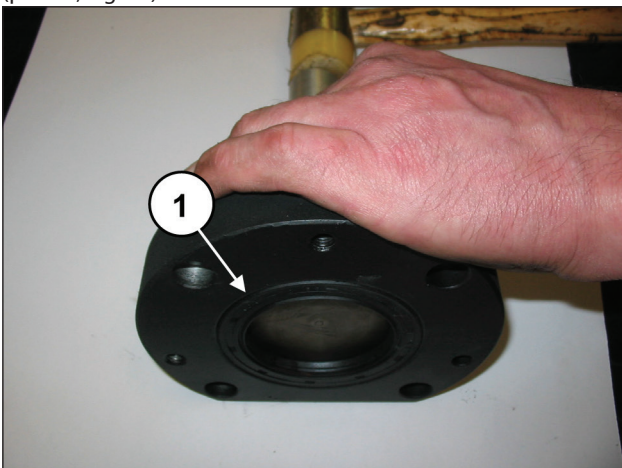
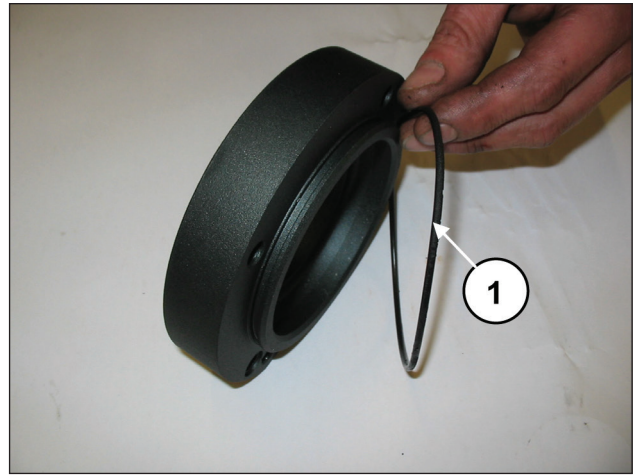
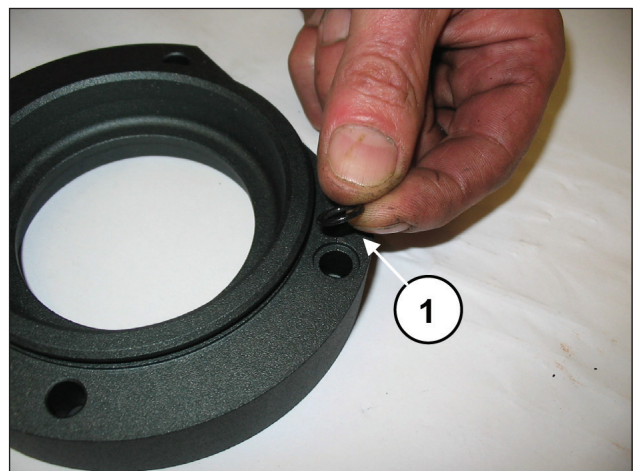

Fig. 29
Fig. 30
Fig. 31
Remove the radial seal ring (pos. ①, Fig. 29), the external O-ring (pos. ①, Fig. 30) and the O-ring of the lubrication hole (pos. ①, Fig. 31).